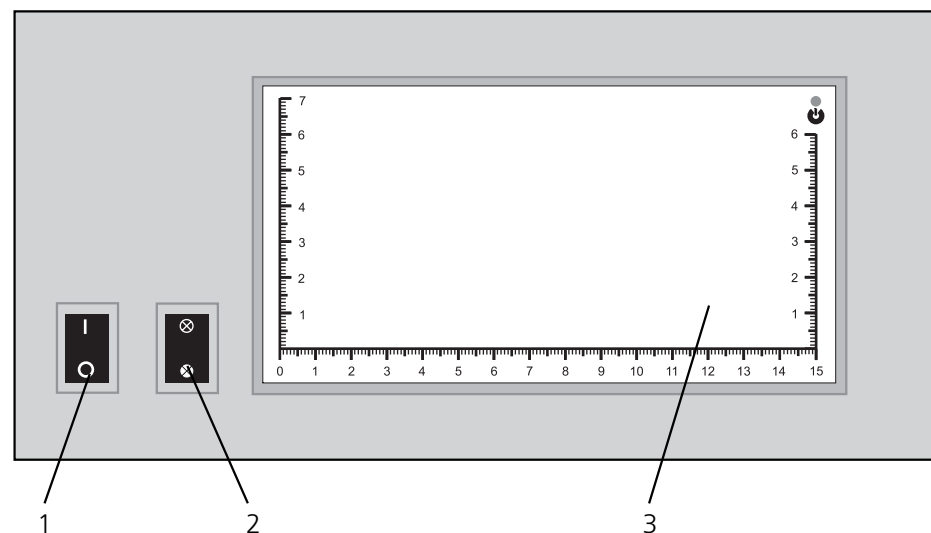

Fig. 2
- Connect the device to the wall outlet (110/220 V, 60/50 Hz) and switch it on with the POWER switch on the front panel of the unit (Fig. 2).
- Place one or several bank notes at the front device panel within the viewing zone (Fig.2).
- Using the switch button 2 at the front panel (Fig. 2) select the desired mode: